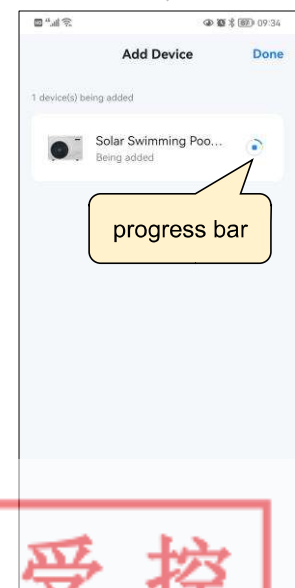

Fig.16 Connecting device
7. The system starts to connect to the device and the connection progress bar will be displayed on the right (Fig.16);